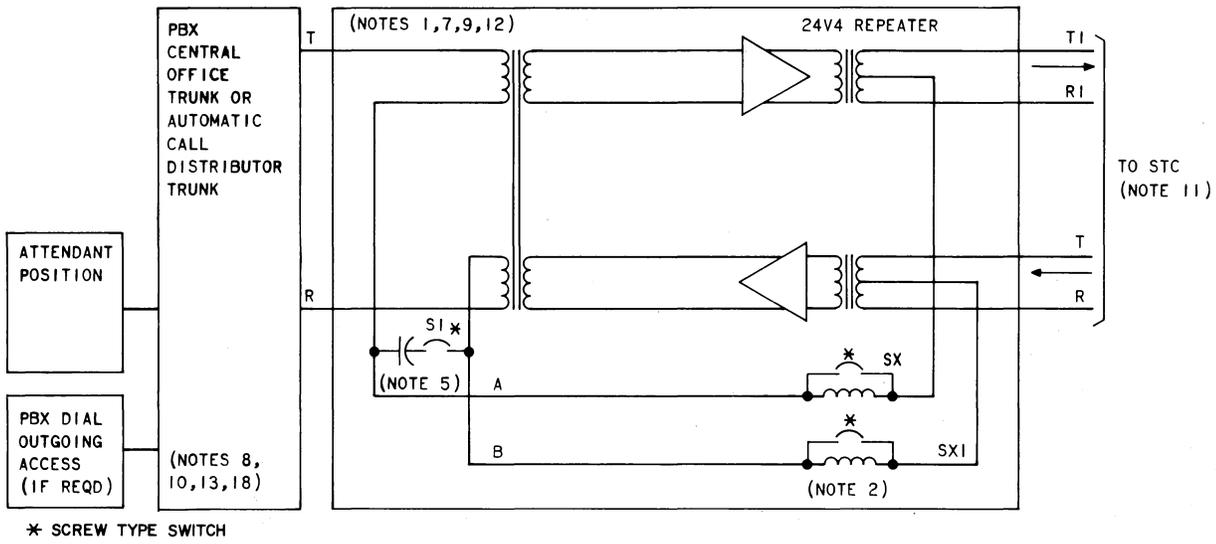

Fig. 1—PBX FX Trunk or WATS Trunk Termination (Station End)—4-Wire Local Channel (Associated With Fig. 7 or 9)
- 11.01** Table C provides an index to Fig. 1 through 14.
- 11.02** Fig. 1 through 14 are examples of circuit configurations required to effect Foreign Exchange and WATS services terminating in PBXs.
Fig. 5—PBX FX Trunk or WATS Trunk Termination (Station End) Arranged for Ground Start Long Trunk—4-Wire Local Channel—Metallic Facilities Only—(Associated With Fig. 1 or 13)
Fig. 13—PBX FX Trunk or WATS Trunk Termination (Switching End) Arranged for Ground Start Long Trunk—4-Wire Local Channel—Metallic Facilities Only—(Associated With Fig. 1 or 5)¶